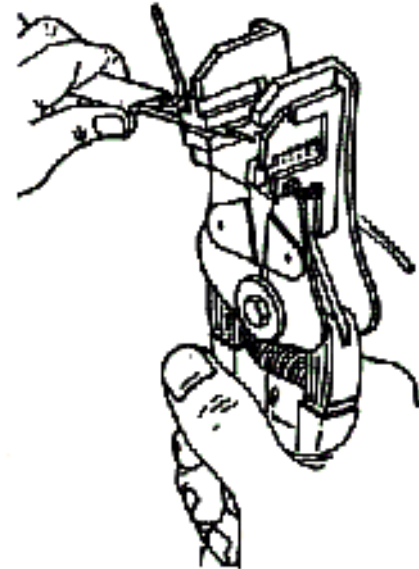

Figure 7. Insulation Removal
- b. Insert the wire into the correct stripping die to strip $3/8 \pm 1/16$ inch of insulation. Squeeze the handles as far as they will go to strip insulation (see Figure 7 and paragraph 8).